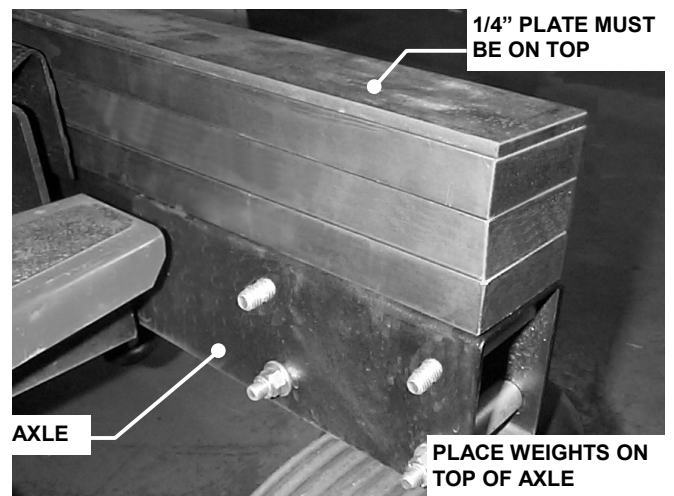

FIGURE 1.5
A. Remove top nuts and top flat washers on both sides of axle. Place all weights on top of axle. The 1/4" thick plate must be at the top. See Figure 1.5.